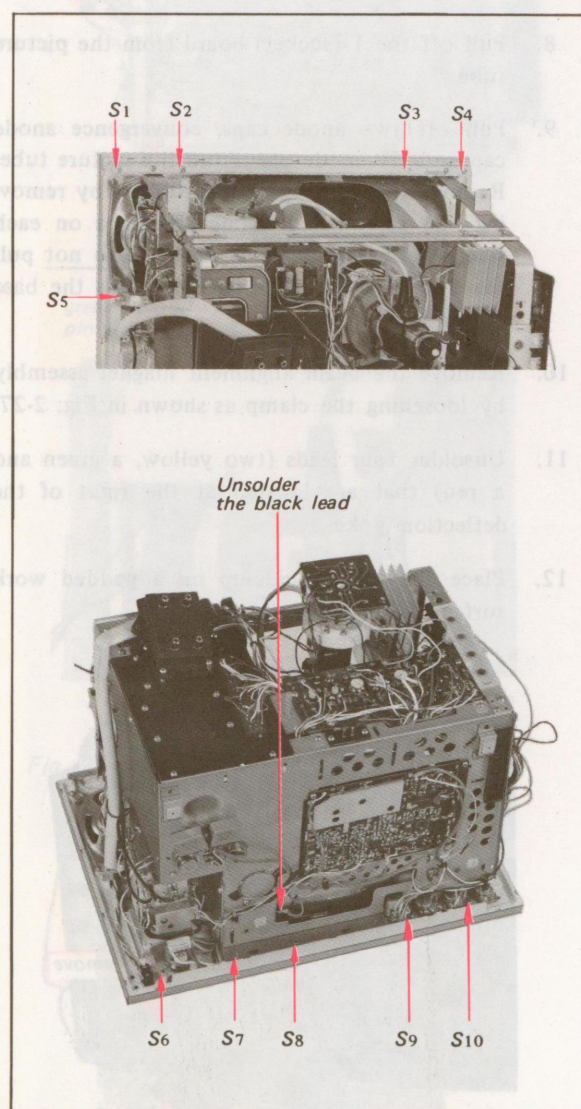

Fig. 2-28. Picture-tube removal, Steps 13 and 14
13. Unsolder the black lead that is connected to the bottom of the chassis. See Fig. 2-28.
14. Remove the ten screws labeled S1-10 in Fig. 2-28.
3. Insert the picture tube into the set. Install and tighten the ten screws shown in Fig. 2-28.
7. Install the picture tube socket (T) board on the base of the tube.